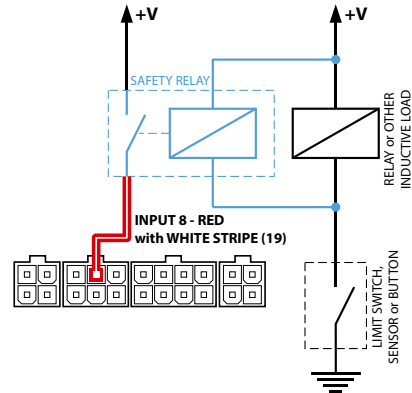

Fig 2.
**2. Safety relay** (fig. 2) – to be installed in parallel to inductive load. In this case, the safety relay contacts are used for closing the controller's input on supply voltage.